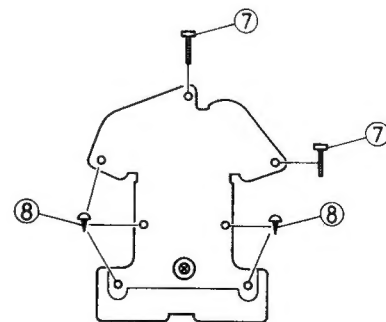

Fig. 7
6. Cam motor and reel motor (Fig. 7)